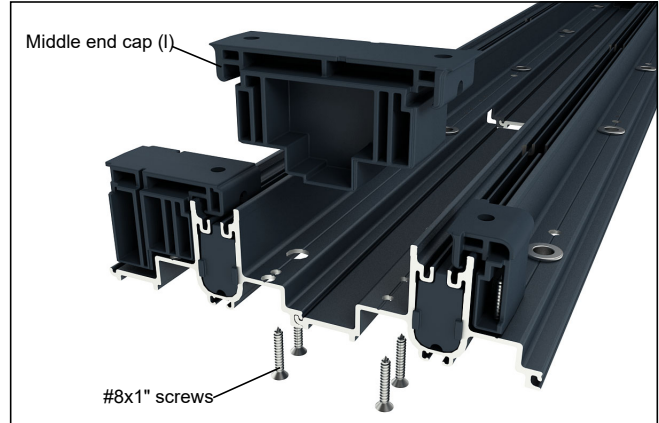

Figure 3
3. After the track has been assembled install the middle end caps with the supplied #8x1" screws. See figure 3.